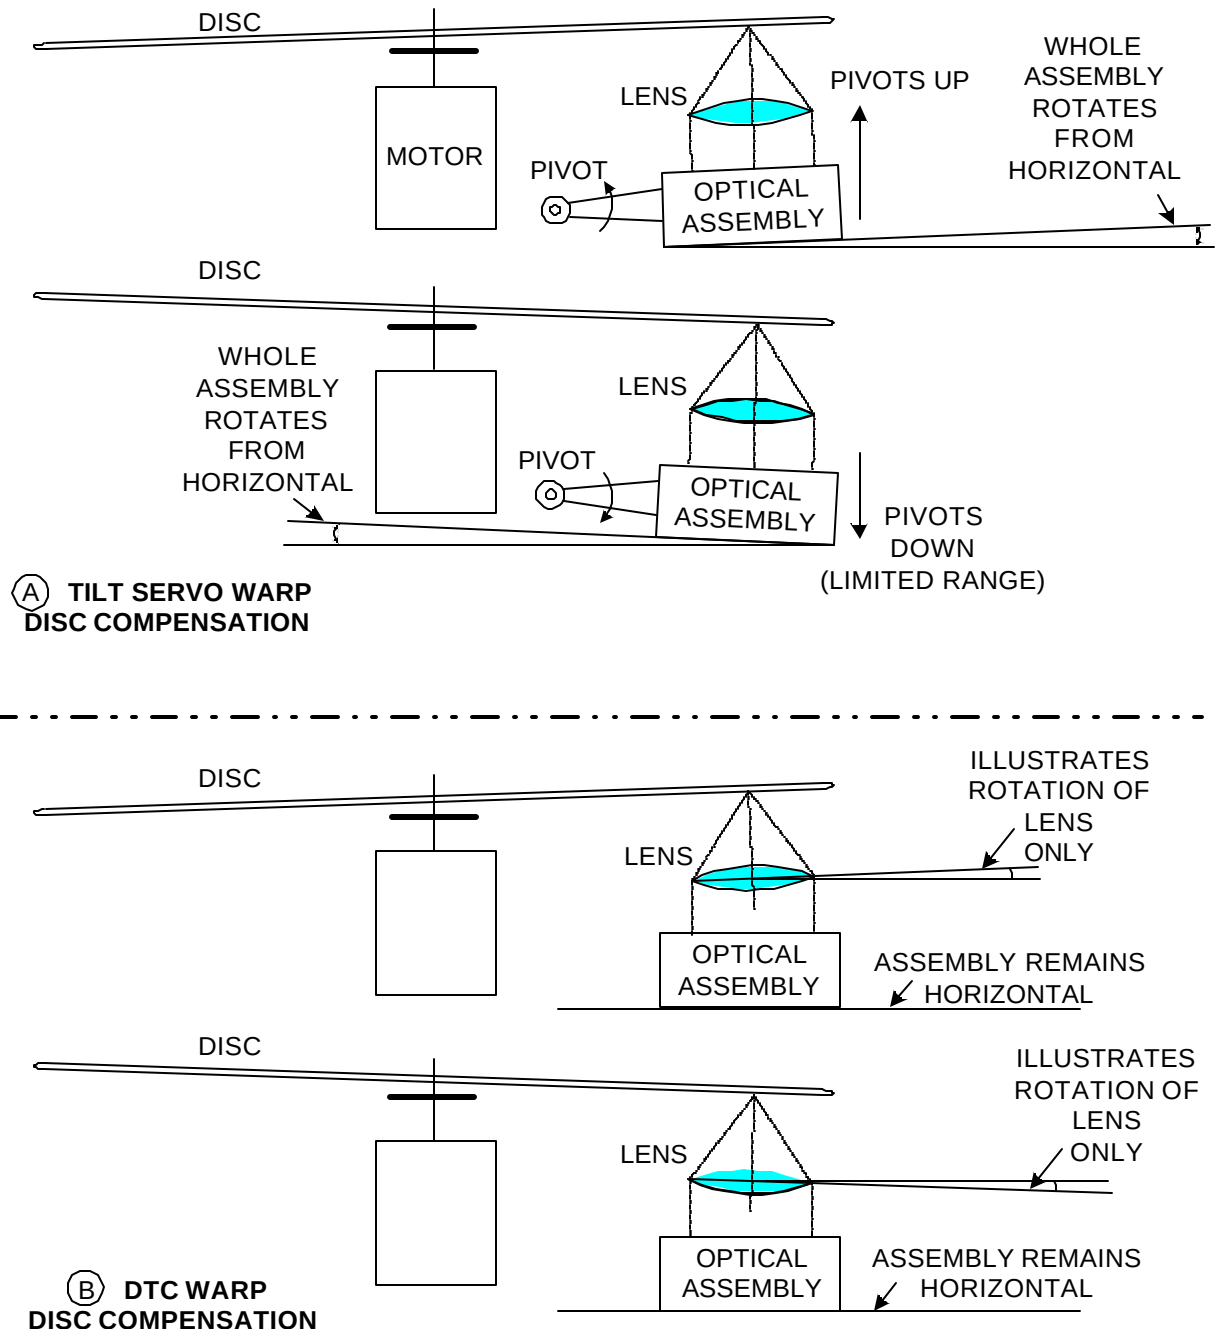

FIGURE 1-3 - TILT SERVO (A) VS. DTC (B)
Because of the finer DVD pitch, the laser must be perpendicular to the disc for maximum RF output from the optical block. Figure 1-3 illustrates the differences between old servo tilt mechanism system (A) and the new DTC system (B) that keeps the laser beam perpendicular. In earlier generations, a tilt servo (A) adjusted the angle of the laser platform to keep the monitored RF level at peak. This system is complex and the platform can “bottom out”, limiting its range.